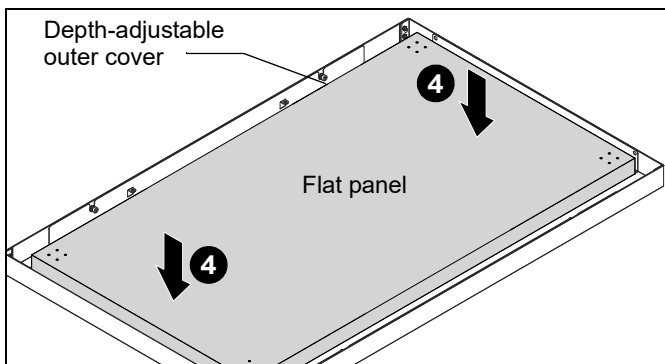

Figure 9
- Carefully lay flat panel face down into the depth-adjustable outer cover. (See Figure 9)